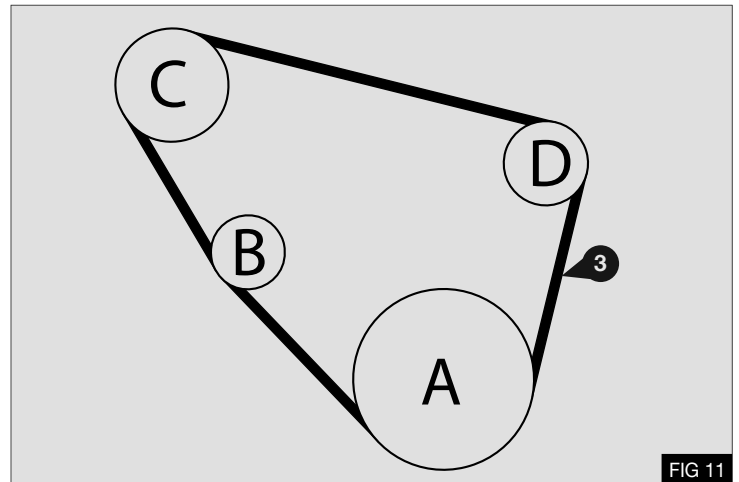

FIG 11
1. Feed the supplied drive belt (3) over the viscous fan and the original drive belt - Fig 11